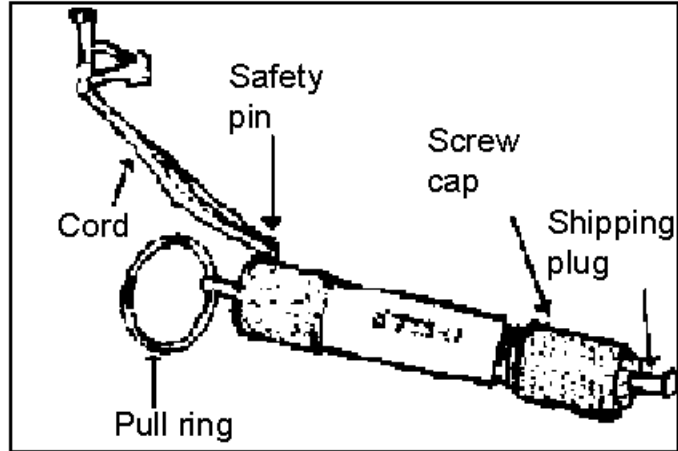

Figure 051-193-1312-3
- (1) Turn the M81 end cap a half turn counterclockwise and pull the shipping plug out of the igniter (Figure 051-193-1312-3).